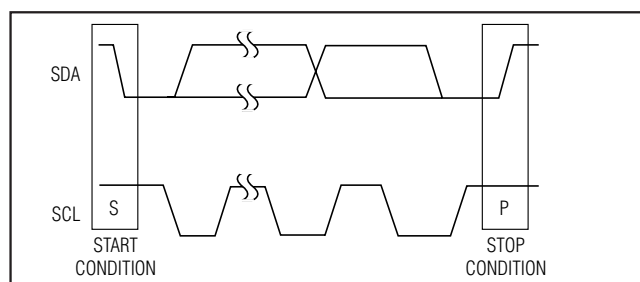
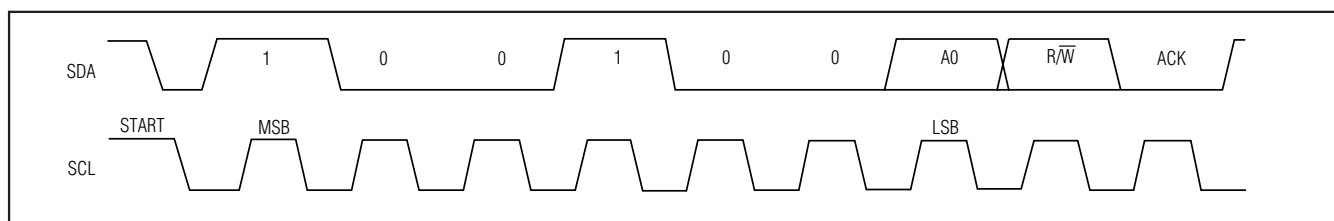

Figure 14. Start and Stop Conditions
Figure 15. Slave Address
Each transmission consists of a start condition (see Figure 14) sent by a master device, the MAX3301E/MAX3302E 7-bit slave address (determined by the state of ADD), plus an R/W bit (see Figure 15), a register address byte, one or more data bytes, and a stop condition (see Figure 14).
Both SCL and SDA assert high when the interface is not busy. A master device signals the beginning of a transmission with a start (S) condition by transitioning SDA from high to low while SCL is high. The master issues a stop (P) condition by transitioning SDA from low to high while SCL is high. The bus is then free for another transmission (see Figure 14).
A bus master initiates communication with a slave device by issuing a START condition followed by the 7-bit slave address (see Figure 15). When idle, the MAX3301E/MAX3302E wait for a START condition followed by its slave address. The LSB of the address word is the read/write (R/W) bit. R/W indicates whether the master is writing to or reading from the MAX3301E/MAX3302E ($R/\bar{W} = 0$ selects the write condition, $R/\bar{W} = 1$ selects the read condition). After receiving the proper address, the MAX3301E/MAX3302E issue an ACK.